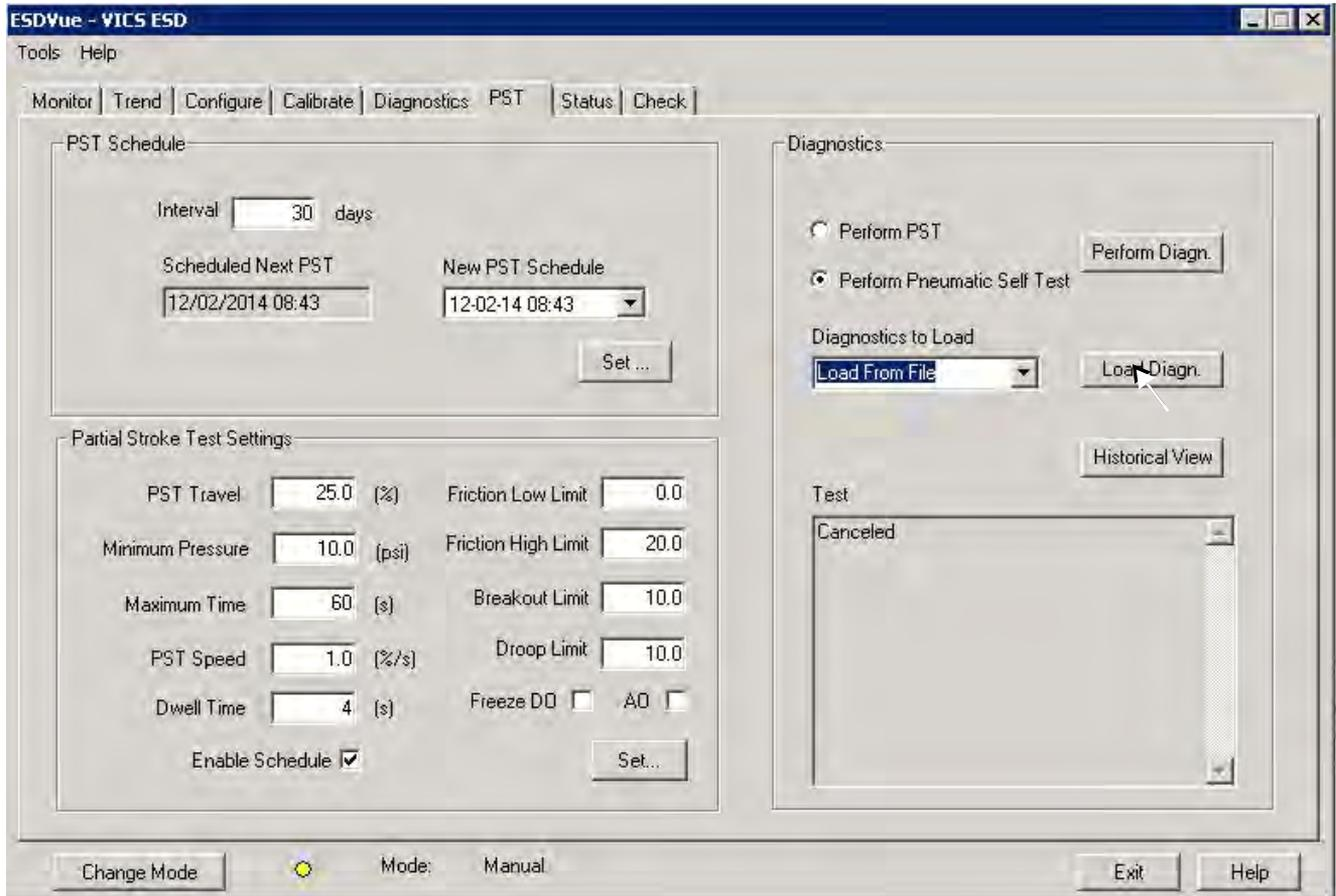

Figure 289 Selecting Load From File
2. Click **Load Diagn** as shown in Figure 289.